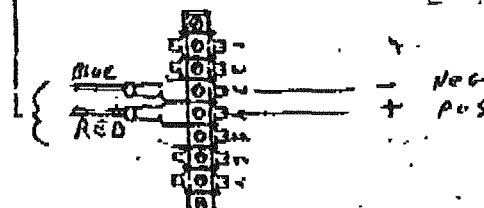

Fig. 2
- 4) Connect other end of harness to seven point terminal strip as follows - see fig. 2
- 5) Mount and connect Humidstat to the 7 point terminal strip as per fig. 2